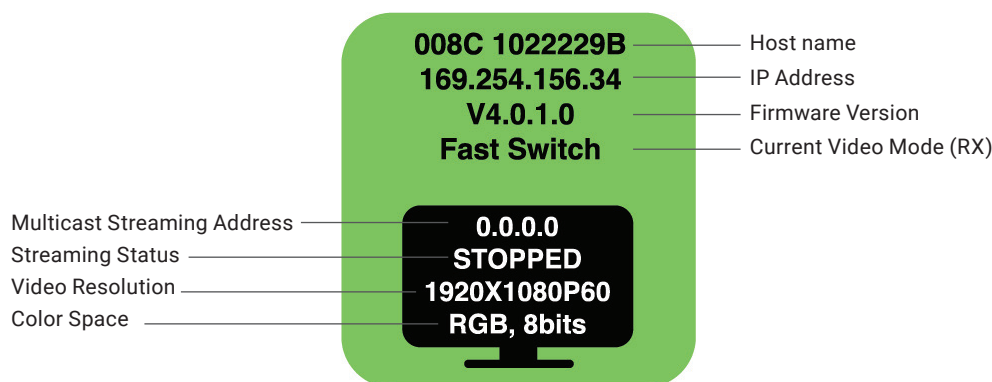

FIGURE 3-1. EXAMPLE OF DATA DISPLAYED FOR DECODER (RX) DEVICE TILE
NOTE: Refer to Figure 3-1, Example of data displayed for decoder (RX) device tile.
- a. Right-mouse-click over the appropriate Decoder (RX) tile.
4. Next, join the decoder (RX) to the encoder (TX).
- a. In the Encoder section, select an encoder (TX) by clicking on its associated active (green) tile with left mouse button.
- b. While holding down the left button, drag the encoder (TX) over the decoder (RX) tile it is to be joined with.